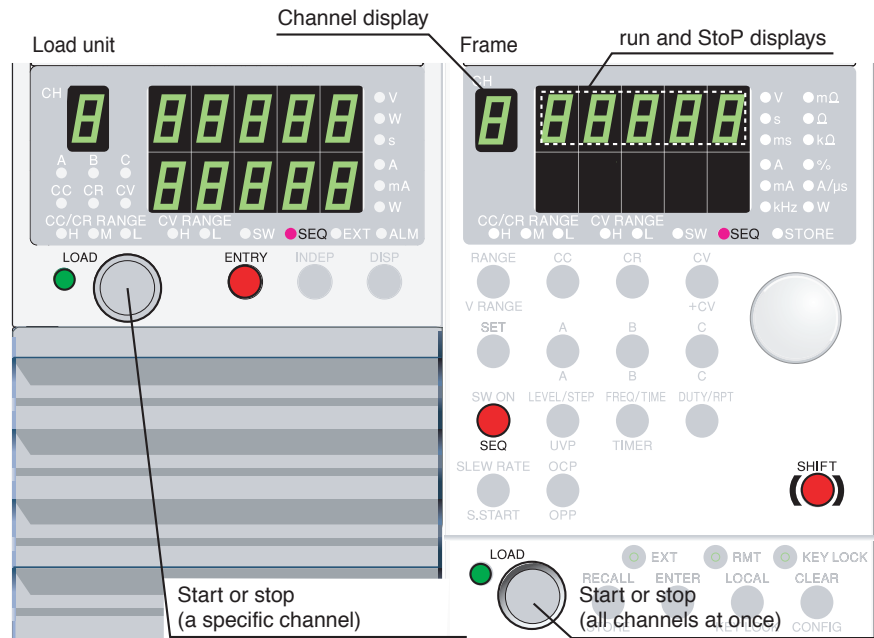

Fig. 5-9 Executing the sequence
- If the load wire comes loose while executing remote sensing, the PLZ-U may malfunction. Check that the connection is secure. You can prevent accidents by connecting a protection fuse (see Fig. 5-9). Use a fuse with a rated current of 0.1 A and a rate voltage greater than the output voltage of the equipment under test.